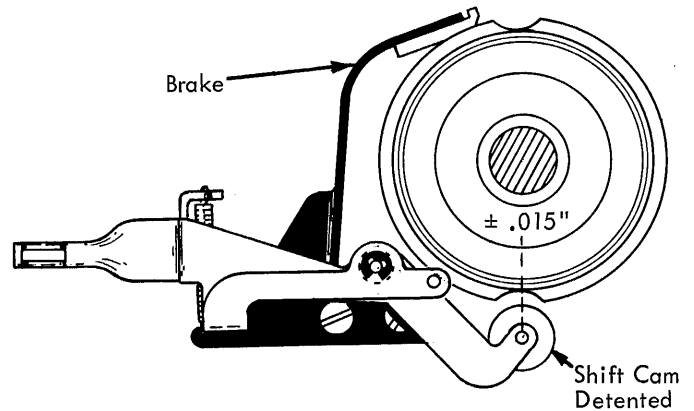

FIGURE 69. Shift Cam Brake Adjustment
4. Shift Cam Brake (Fig. 69) - The shift cam brake shall be so adjusted, that the shift cam will stop in the center of the detent position  $\pm .015''$ , when the detent roller is held away from the cam during the shift from upper case to lower case.